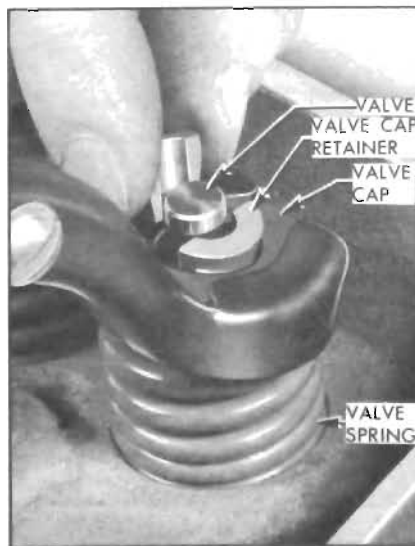

Figure 2-66—Removing Valve Cap Retainers
2. Using suitable spring compressor, such as J-8062, compress valve spring and remove cap retainers. Release tool and remove spring and cap. See Figure 2-66.